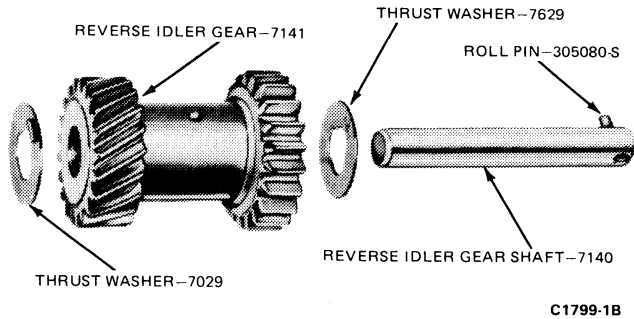

FIG. 18 Reverse Idler Shaft—Disassembled
20. Lift the reverse idler gear and two thrust washers (Fig. 18) from the case. Lift the countershaft gear, thrust washer, and dummy shaft from the case.